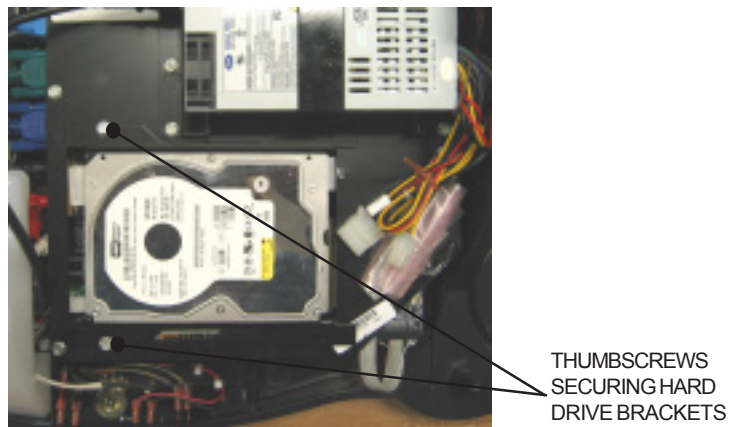

FIGURE 3-3 - TWO THUMBSCREWS SECURING HARD DRIVE
4. Install the hard drive as shown in Figure 3-3 and secure it with the 2 thumbscrews. Be sure the IDE cable doesn't interfere with any other motherboard components.